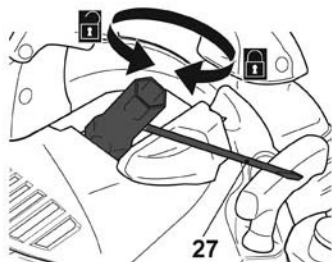

Fig. 23
> Loosen the spark plug (15a) anticlockwise with the multi tool (27) (Fig. 23) and remove it carefully.